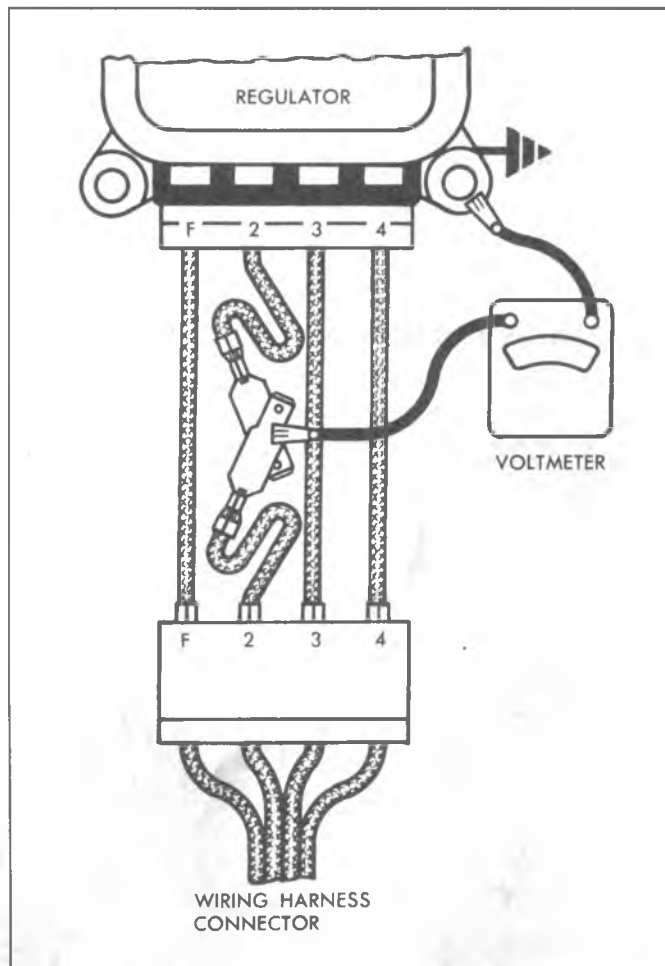

Fig. 7c—Testing Field Relay
1. Connect a voltmeter into the system at the regulator No. 2 terminal to ground (fig. 7c).